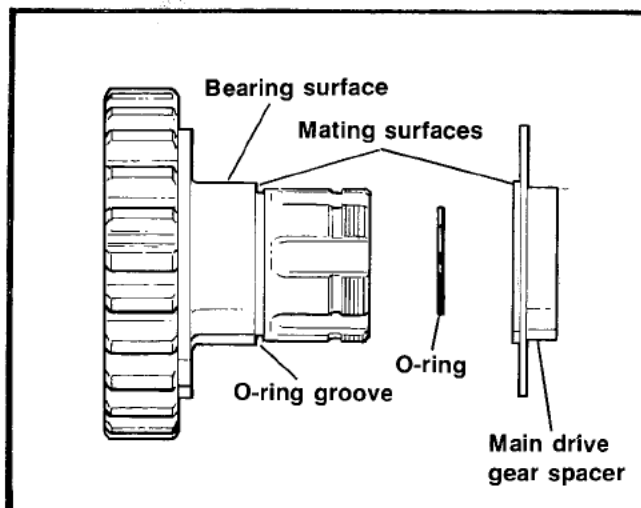

Figure 4. Main Drive Gear and Spacer
- (6) See Figure 4. Apply a light coat of machinist's blue to the main drive gear spacer's mating surface.
- (7) Install spacer on the main drive gear and rotate spacer to establish the location of the contact patch. Remove spacer and verify this contact area. There should be 360° of even contact. If a good